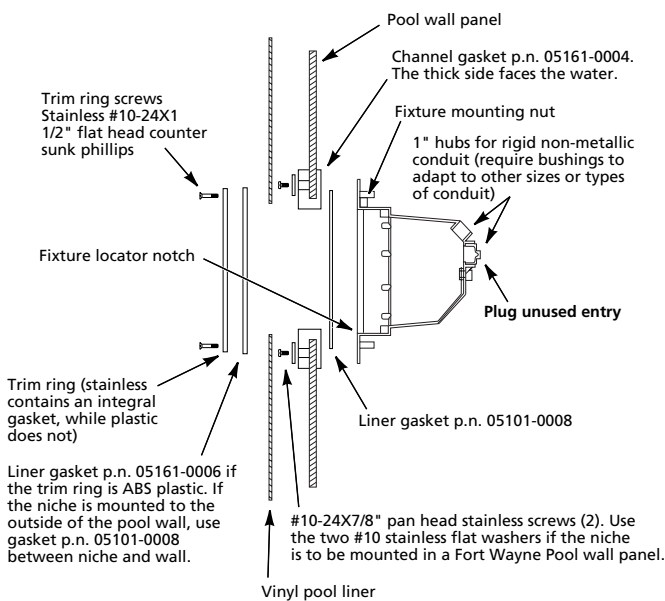

Figure 3: Vinyl Liner Niche Installation with American Standard Pre-punched steel panels
4. Slide the channel gasket (Key No. 8) into place on the inside of the niche opening in the pool wall, with the thick side of the gasket inside the pool (See Figure 3).